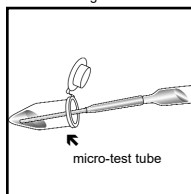

Figure 3
3. Fill the micro-test tube approximately halfway with the sample to be tested (fig. 3).
5. Holding the VACUette almost horizontally, touch the tip to the contents of the micro-test tube (fig. 3).